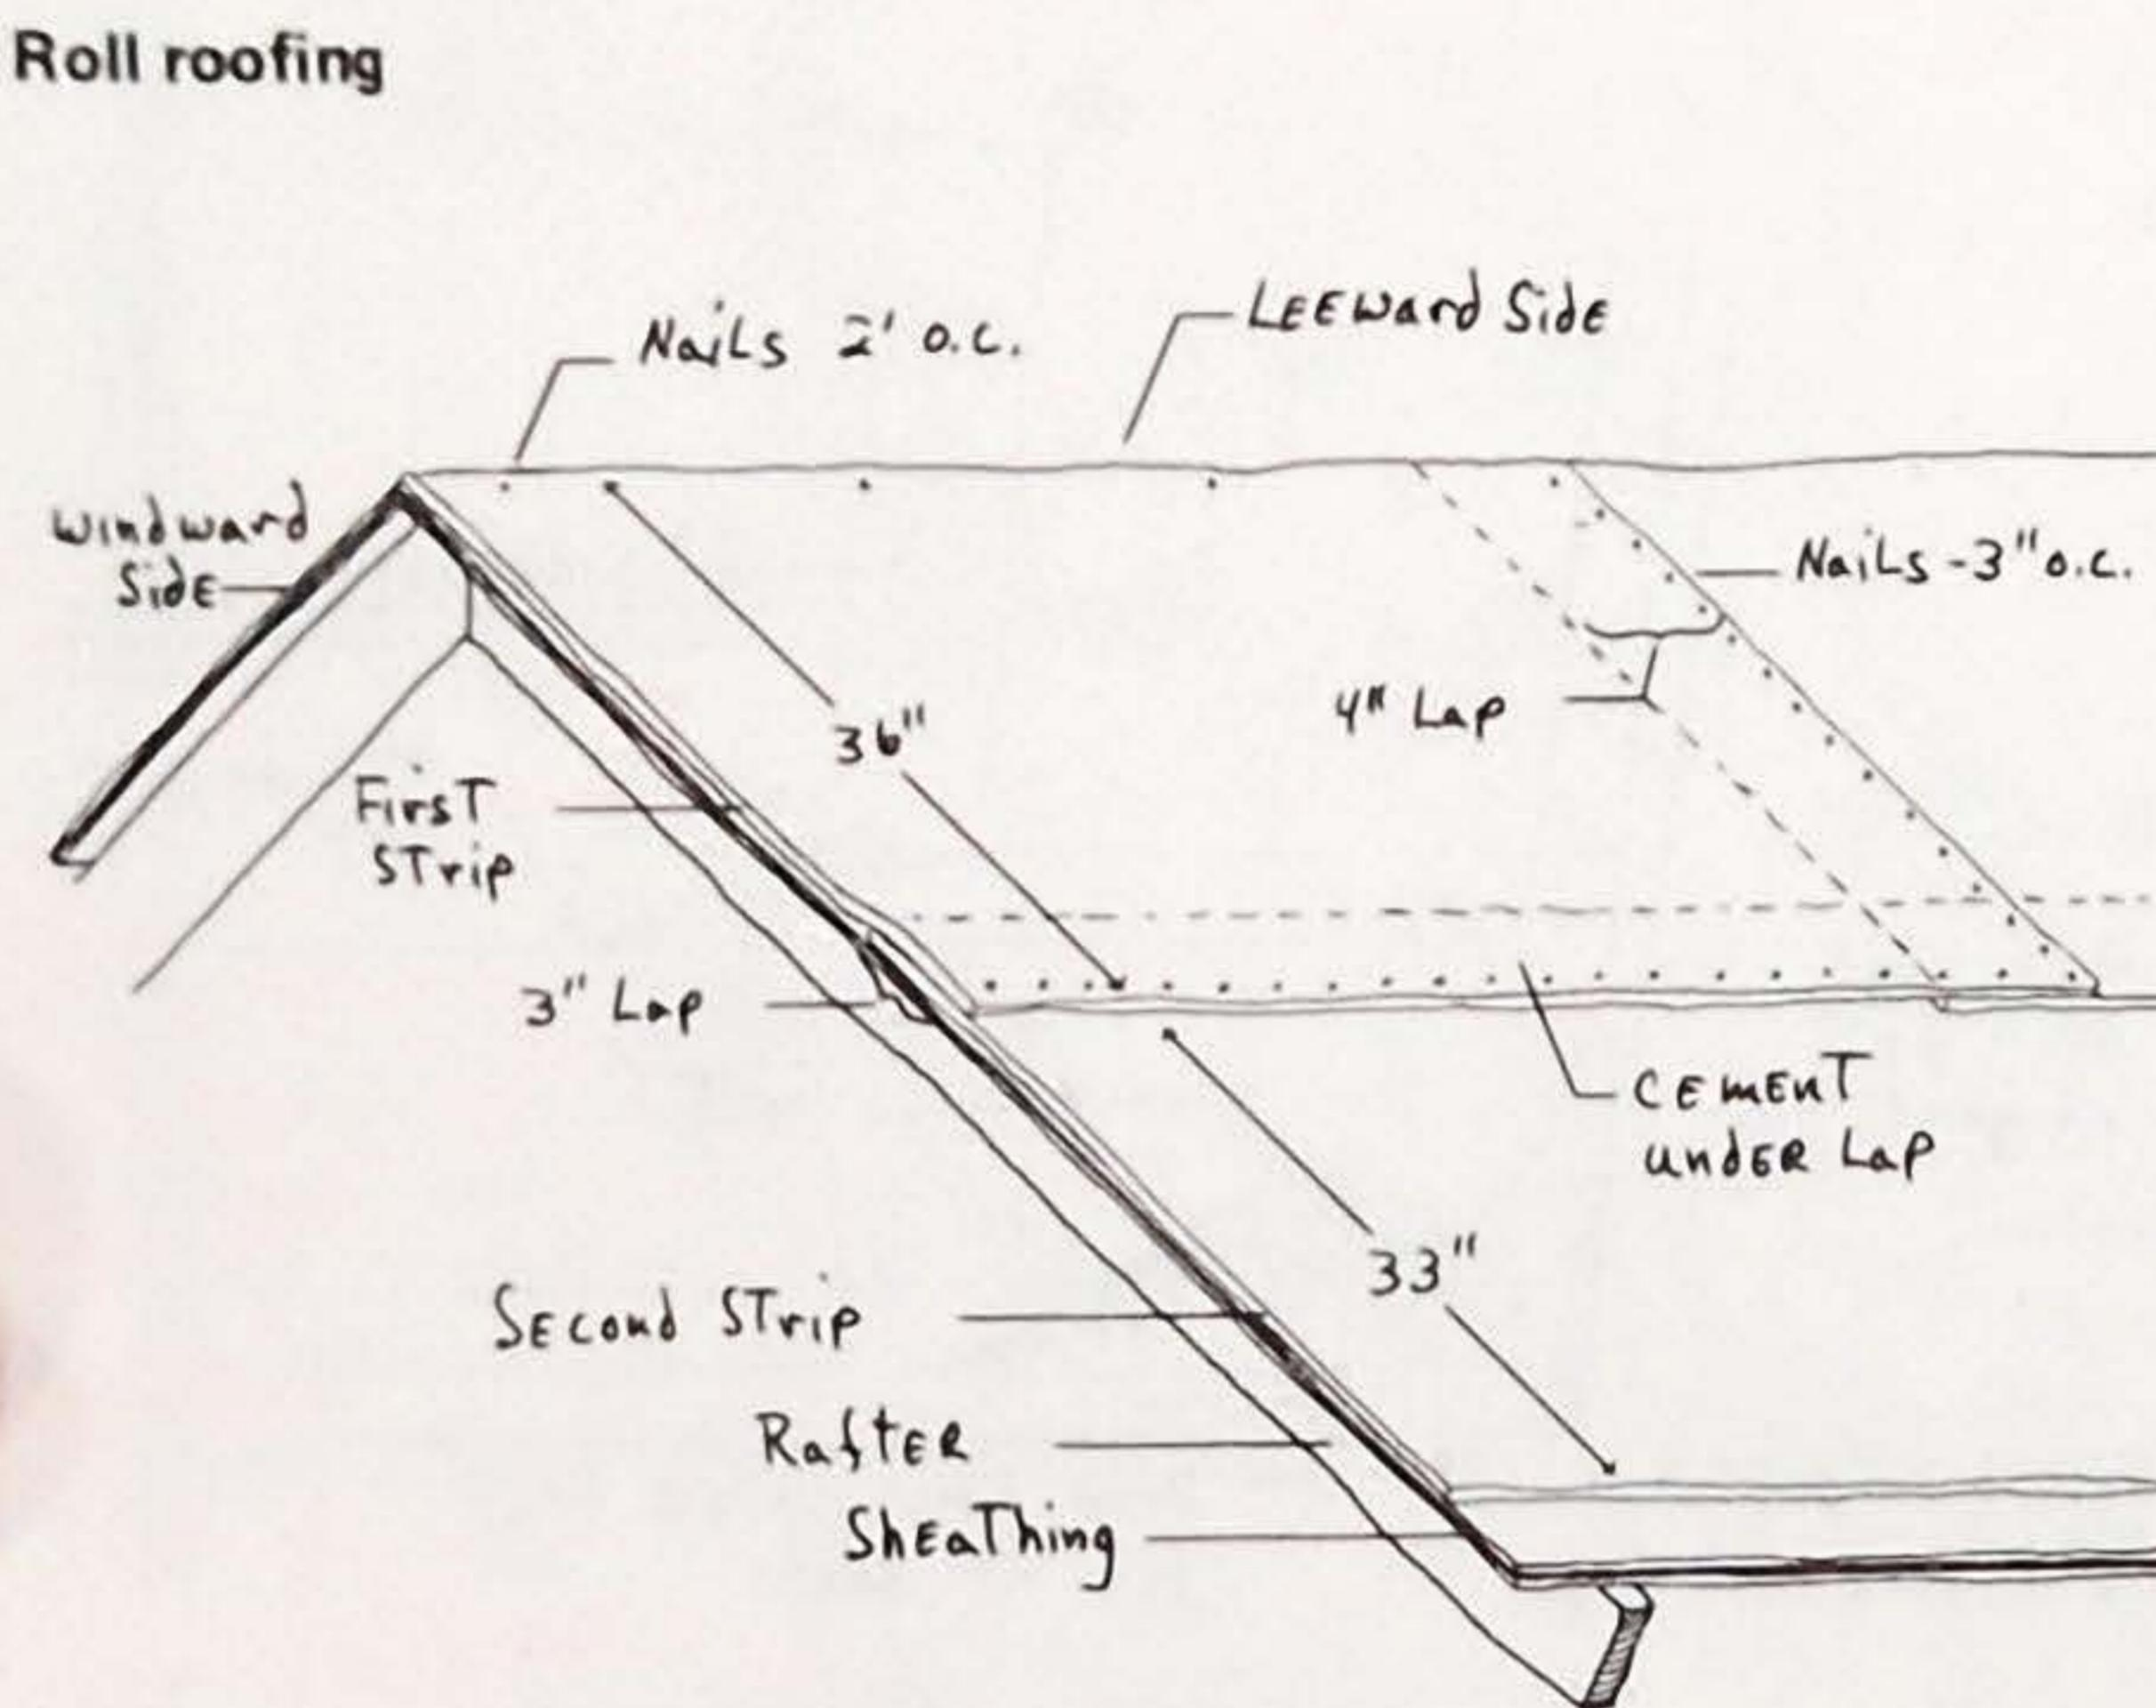

Fig. 27-Installing the FIRST STRIPS of ROLL ROOFING
A roll of mineral surfaced roofing is 36" wide and 36' long and is laid over the felt underlayment with a 6" side lap and a 3" top lap. The width of each course that is exposed to the weather is 33". Fig. 27. Measure the roof from eave to gable. If from the measurement you realize that laying the courses of roll roofing 33" to the weather will yield a last course that is narrower than the rest, increase the lap to even up the courses.
3. Slip this 3" portion of the second strip of roll roofing under the first strip and align the chalk line on the second strip with the bottom edge of the first. Seat the top strip into the cement by walking on it. Fig. 27.
5. If a joint is made in the middle of a course, it should be perpendicular to the ridge and lapped 4". The joint should be cemented and nailed like the long joints between courses. Fig. 27.